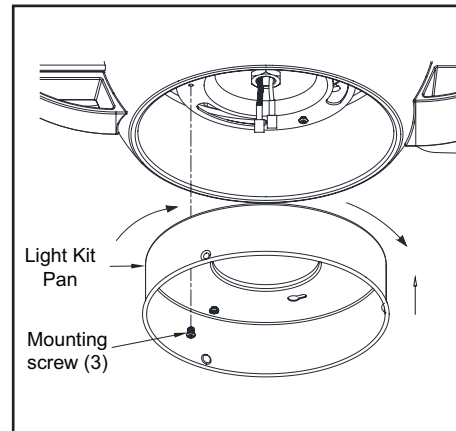

Figure 13
1. Loosen but do not remove two of three mounting screws from the fan motor assembly; Remove one mounting screw. (Figure 13)
2. Push the light kit pan up to the fan motor assembly so that the two loosened screw heads fit into the keyhole slots. Turn the light kit pan clockwise, tighten the screws. Re-install the screw that was removed in step 1 and tighten firmly. (Figure 13)